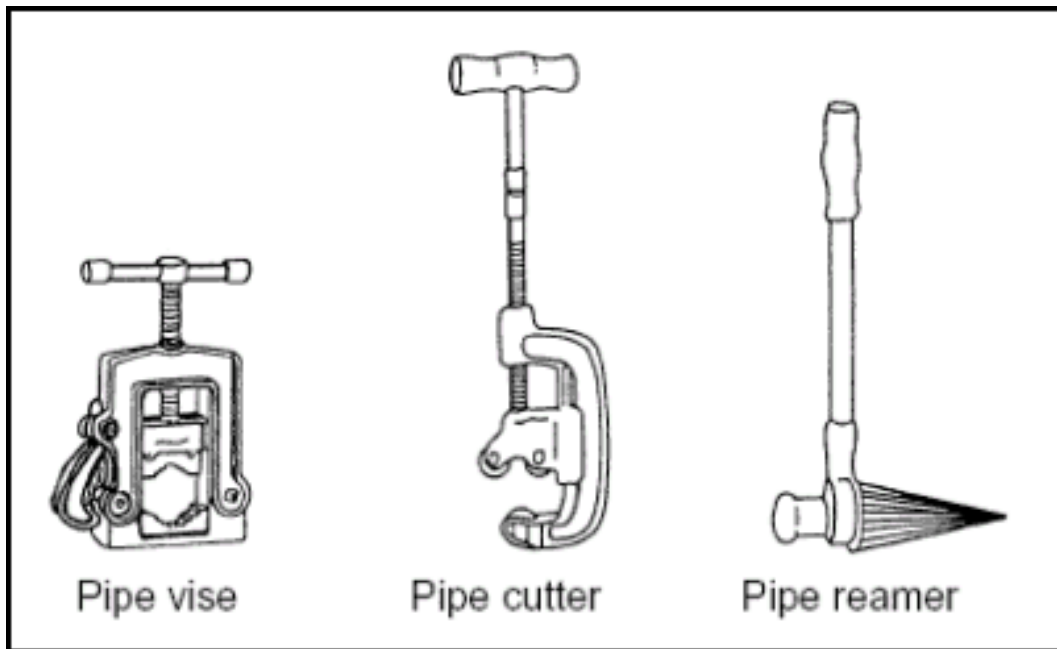
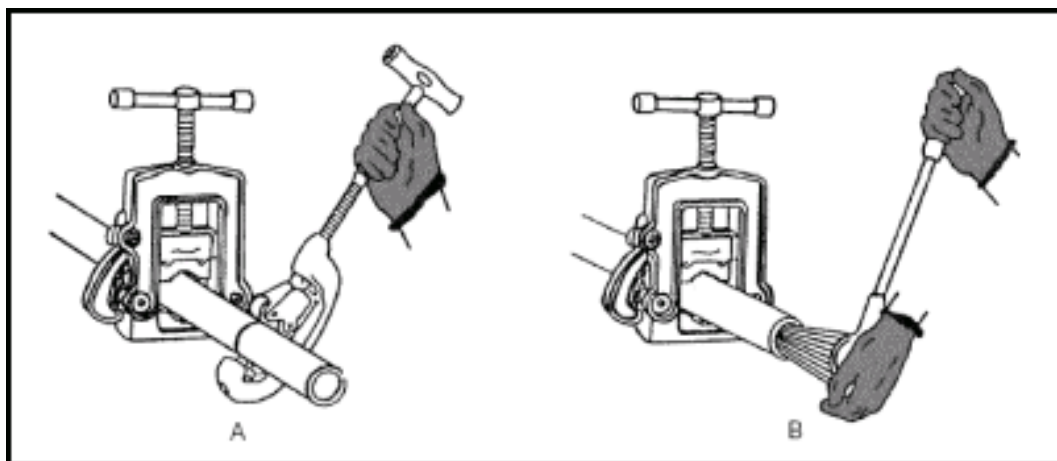

Figure 6-26. Steel-Pipe Tools
Figure 6-27. Cutting and Reaming Steel Pipe
6-57. Steel pipe is cut and reamed using a vise, pipe cutter, and reamer (Figure 6-26). To avoid pipe waste, use Figure 6-27 and the following steps:
Step 4. Place the cutter around the pipe with the cutting wheel exactly on the mark. The rollers will ensure a straight cut (Figure 6-27, A). If using a three-wheel cutter, place the cutting wheel of the movable jaw on the mark; ensure that all three wheels are at right
Step 8. Push the reamer into the pipe. Turn the reamer clockwise in short, even strokes, while keeping steady pressure against the pipe (see Figure 6-27, B) until the inside burrs are removed.